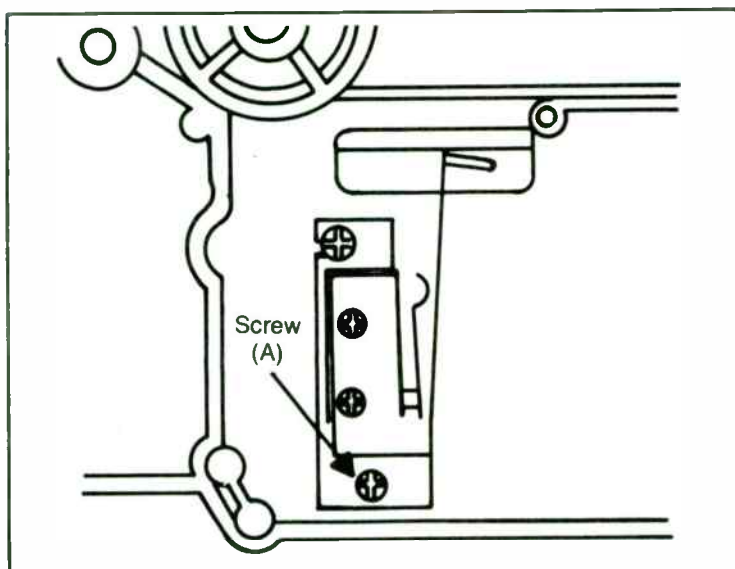

Fig. 10-24. Take-up torque adjustment (courtesy of Magnavox).
2—Have the two screws (A) loosened slightly and push switch bracket slowly in the direction indicated until the switch turns on (clicks). Now tighten the two screws (A). Refer to Fig. 10-24.